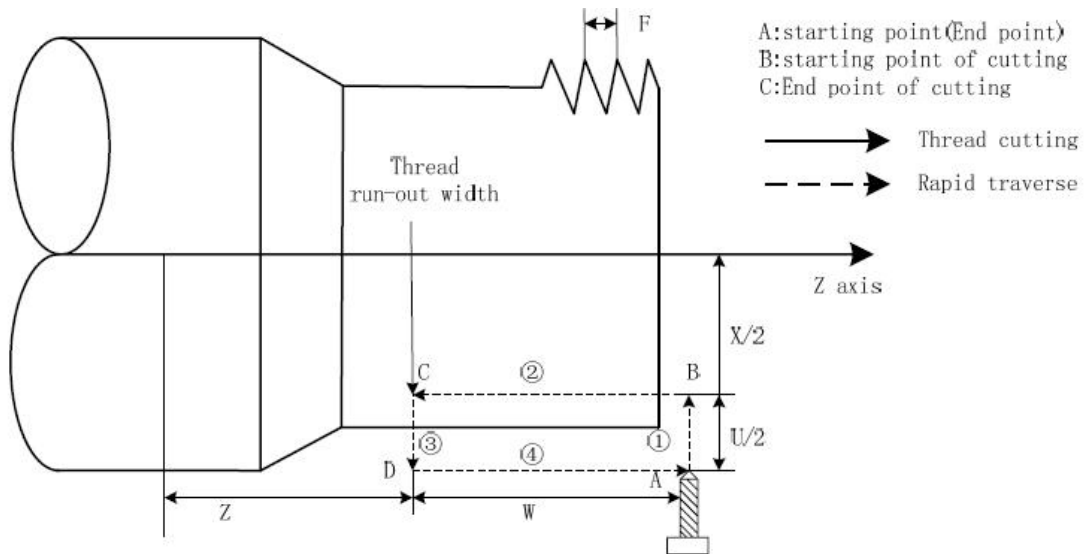
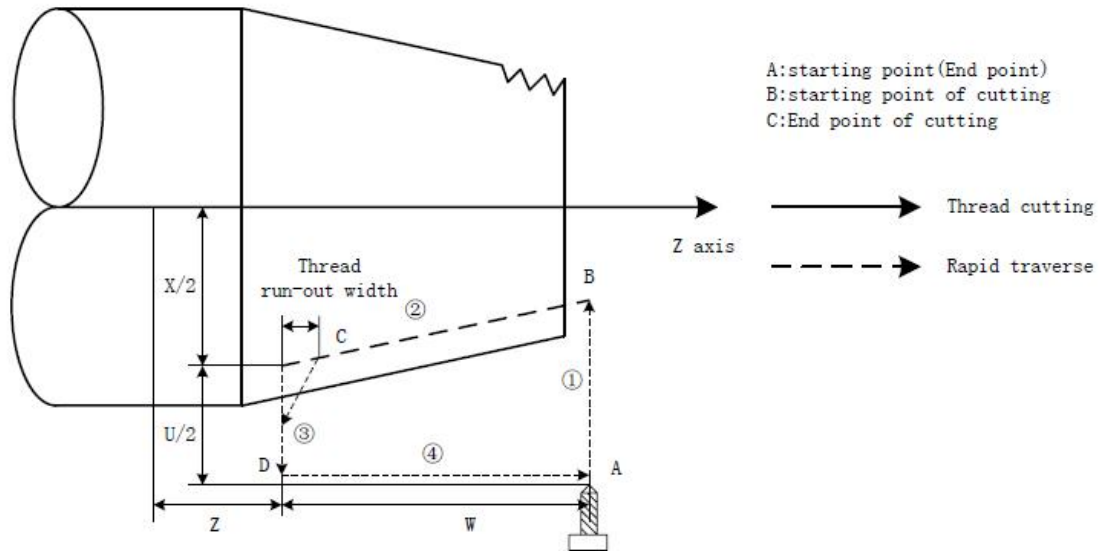

Fig. 3-44
Fig. 3-45
Command function: Tool infeeds in radial (X) direction and cuts in axial (Z or X, Z) direction from starting point of cutting to realize straight thread, taper thread cutting cycle with constant thread pitch. Thread run-out in G92: at the fixed distance from end point of thread cutting, Z executes thread interpolation and X retracts with exponential or linear acceleration, and X retracts at rapidly traverse speed after Z reaches to end point of cutting as Fig. 3-44.
Cycle process: straight thread as Fig.3-44 and taper thread as Fig.3-45.